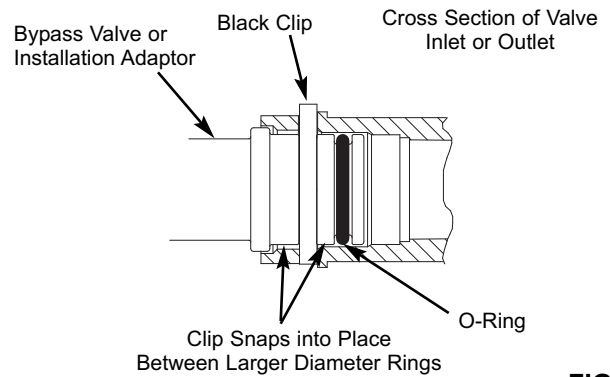

FIG. 11
7. Push the bypass valve into the softener valve as far as it will go. **Snap the two large holding clips into place, from the top down as shown.** See Fig. 11.
CAUTION: Be sure the clips snap firmly into place so the bypass valve will not pull out. See Fig. 11.
8. Put a light coating of silicone grease on the o-ring seals and slide into the threaded adaptors. Push the adaptors into the valve inlet and outlet ports, or bypass valve ports, as far as they will go. Both adaptors are the same and fit either port. **Snap the two large holding clips into place, as shown.** See Fig. 11.
CAUTION: Be sure the clips snap firmly into place so the tubes will not pull out. See Fig. 11.